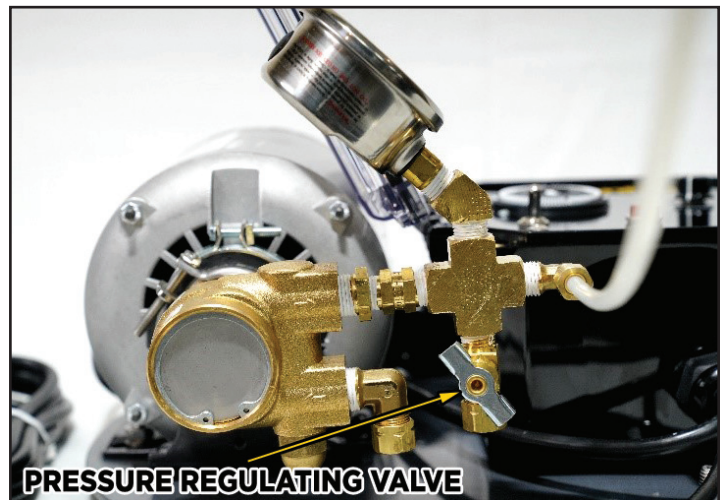

**FIGURE 6**
6. At the end of the tubing attach a bleed valve to shut off the line and hold pressure (Figure 6). It is recommended to end the tubing at the drum for bleeding liquid and air from the line into the drum.